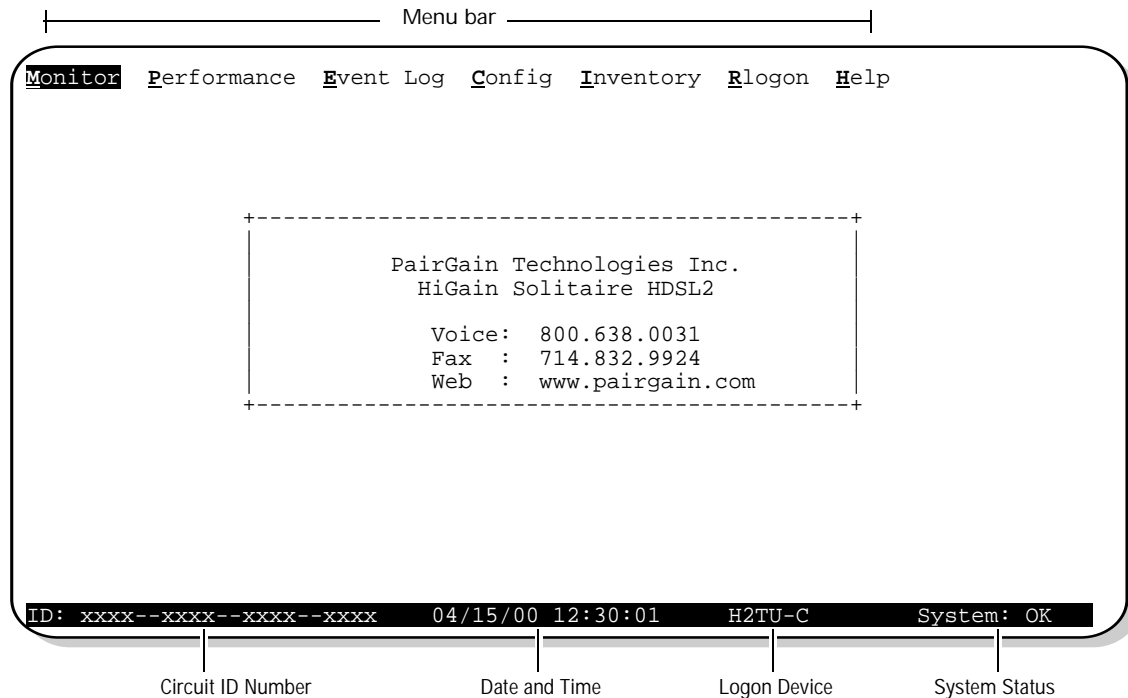

Figure 4. Logon Screen
- Use a maintenance terminal (ASCII terminal or a PC running terminal emulation software) connected to the H2TU-C craft port (or to an HMU craft port) to access the HiGain HDSL2 maintenance screens (Figure 4 on page 15). This gives you full access to all H2TU-C status, history, inventory, and provisioning screens.
To select a menu from the HiGain HDSL2 logon screen (Figure 4 on page 15), do one of the following: